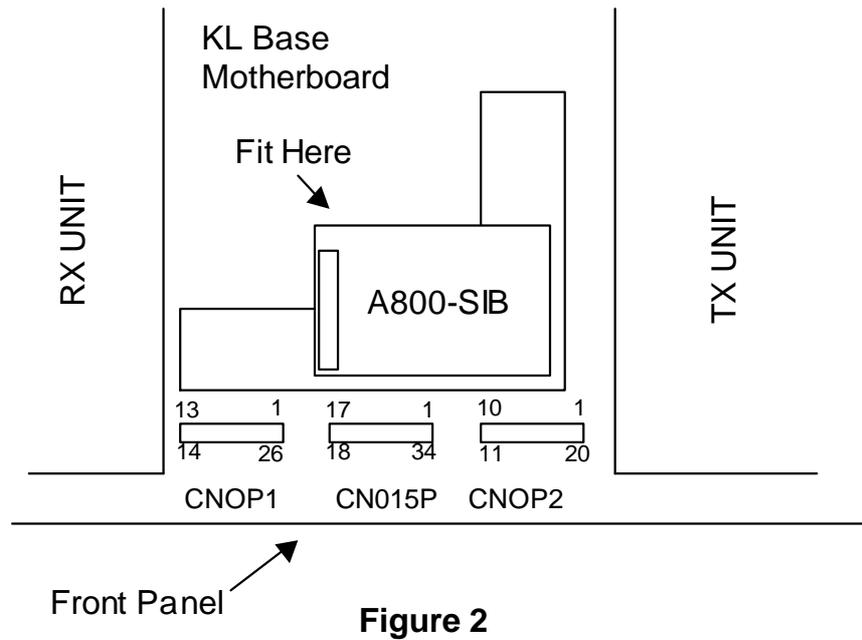

Figure 2
- In the KL Base motherboard section, fit the A800-SIB board. The A800-SIB board should be mounted with the supplied double-sided tape, and fixed to the KL Option metal mounting bracket at the front of the base. Refer to Figure 2 and 3.